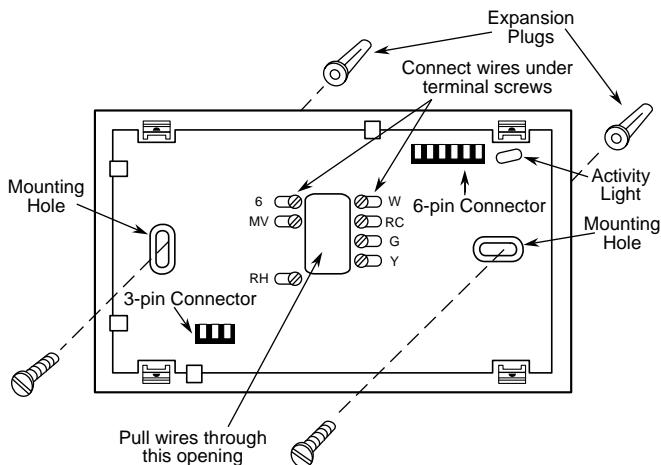

Figure 3. Subbase
- Connect wires beneath terminal screws on subbase using appropriate wiring schematic (see Figs. 3 through 11).
- Fasten subbase loosely to wall, as shown in Fig. 3, using two mounting screws. Place a level against bottom of subbase, adjust until level, and then tighten screws. (Leveling is for appearance only and will not